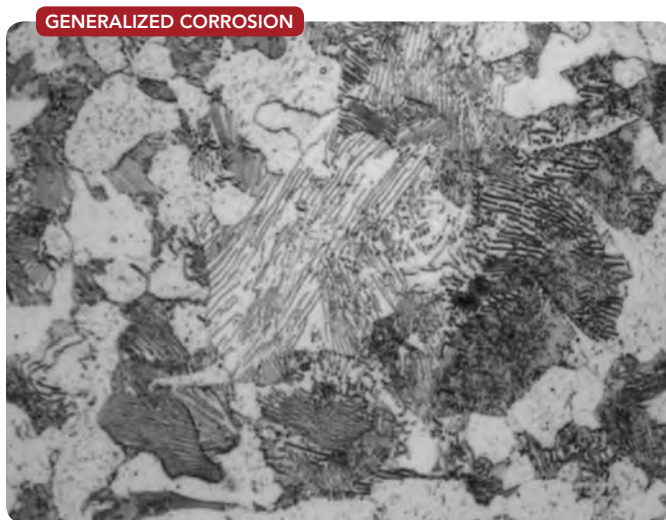

Figure 1. Carbon steel corrodes uniformly, so a corrosion allowance can be used. Photo courtesy of Matco Associates, Inc., Pittsburgh, Pa.
5. *Properly use corrosion allowance.* This allowance adds extra thickness to account for uniform metal loss over the equipment's expected service life. The key word here is uniform. Mild carbon steel uniformly corrodes due to the galvanic cell potential of the interlaced ferrite-cementite grain structure, called pearlite (Figure 1). Specifically, there are millions of anodic (ferrite) and cathodic (cementite) sites that in the presence of moisture provide the four necessary elements for corrosion (anode, cathode, metallic bridge, and electrolyte). Alloyed materials in aggressive service will also uniformly corrode because their strong protective oxide layer is breached. Specifying a cor-